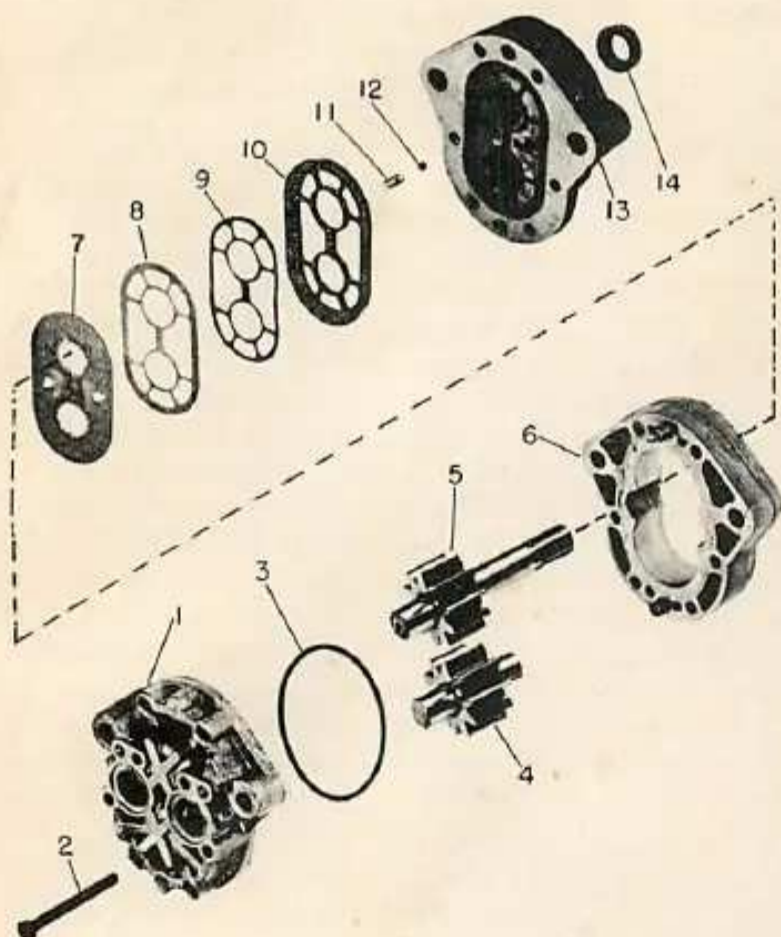

Fig. O153 — Exploded view of the hydraulic pump assembly. Check ball (12) and spring (11) are used on early Series 1600 pump assembly only.
246. OVERHAUL. With the pump and manifold removed as outlined in paragraph 245, remove cap screws and separate pump and manifold. Refer to Fig. O153 and proceed as follows: Place a scribe mark across front plate, body and back plate to insure proper assembly. Place pump in a vise and remove cap screws (2) which hold pump together. Remove pump from vise and while holding pump in hands, bump drive shaft against wood block and separate pump. If body (6) remains with either front plate (13) or back plate (1), remove by tapping with a soft faced hammer, or by installing drive shaft in bearing and bumping shaft. Removal of diaphragm (7), spring (11), ball (12), gaskets and oil seal (14) is obvious.